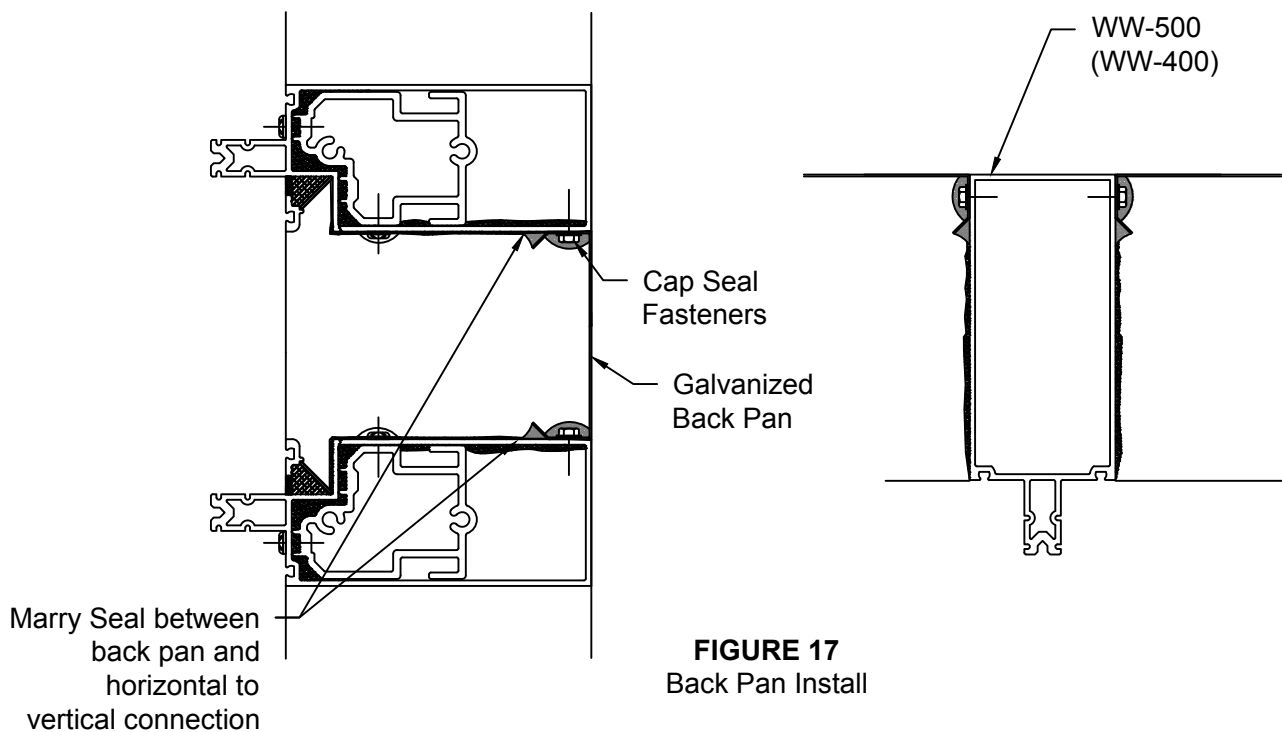

FIGURE 17
- 2.2 The back pan is installed at back of horizontal from exterior and fully sealed around perimeter, cap seal fasteners and marry seal with seals at verticals to horizontals connections See **FIGURE 17**, page 16.